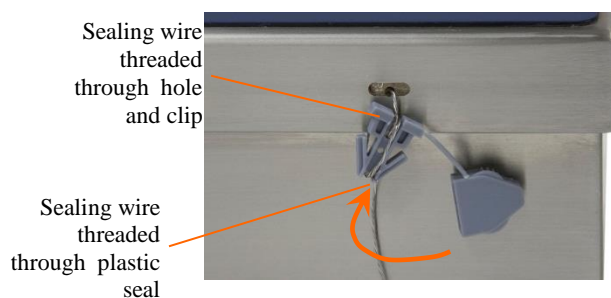

Figure 1-9: Seal Threaded and Ready to be Closed
For sealing details of the T72XW terminal, refer to Figure 1-9 and follow these steps:
5. Thread the end of the wire cable through the hole in the plastic seal (as shown in Figure 1-9), remove any remaining slack in the wire, and snap the seal shut.